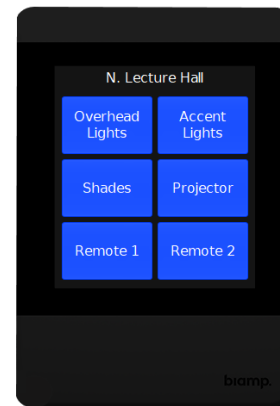

Figure 8. 6-Button Layout
3. The buttons may be configured via the Control Pad Designer in the Tesira software. There are many configuration possibilities. The Control Pad Designer allows for customizing the interface to match the physical device color as well button color, text, etc. Examples of color and layout are shown in Figures 8 and 9.